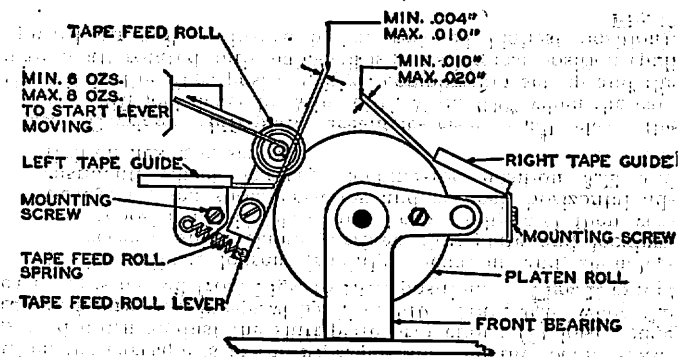

Fig. 15
3.27 Tape-guides shall be in line with each other and be so located that printing is in middle of tape, the tape-guide on left side of platen clears platen by Min. .004", Max. .010" and the tape guide on right side of platen clears the platen by Min. .010", Max. .020". Gauge by eye. This adjustment applies to both types of tape feed. Fig. 15
3.31 **Tape feed-roll spring tension** shall be Min. 6 ozs., Max. 8 ozs., on pull-tape-feed typing-units, and Min. 10 ozs., Max. 14 ozs. on push-tape-feed typing units, measured at the feed-roll-shaft as the feed-roll leaves the platen. **Fig. 15**